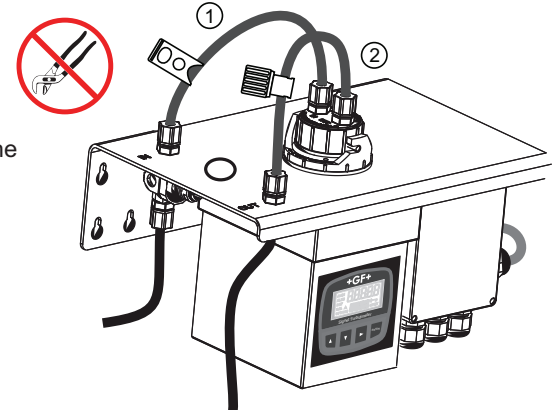

Fig. 1
1. Locate Tubing Kit 4150-0005 and install the tube kit with the shutoff clamp (labeled "IN") to the nipple assembly marked "IN" on the Turbidimeter and to the measuring cell nipple marked "IN". See Fig. 1.
2. Install the tube kit with the small back pressure valve to the nipple assembly marked "OUT" on the top right front corner of the turbidimeter and to the measuring cell nipple marked "OUT". See Fig. 1.